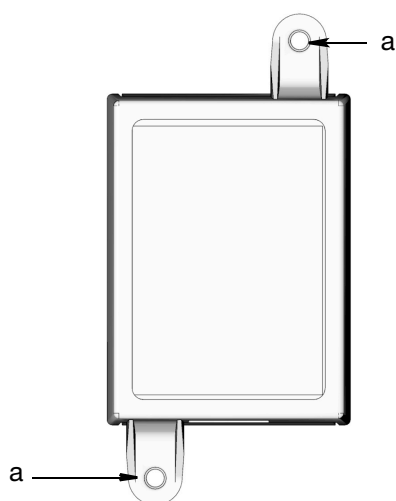

FIG. 5
3. Align junction box with predrilled holes (FIG. 5, (a)). Use two screws (not provided) to secure junction box to mounting surface.